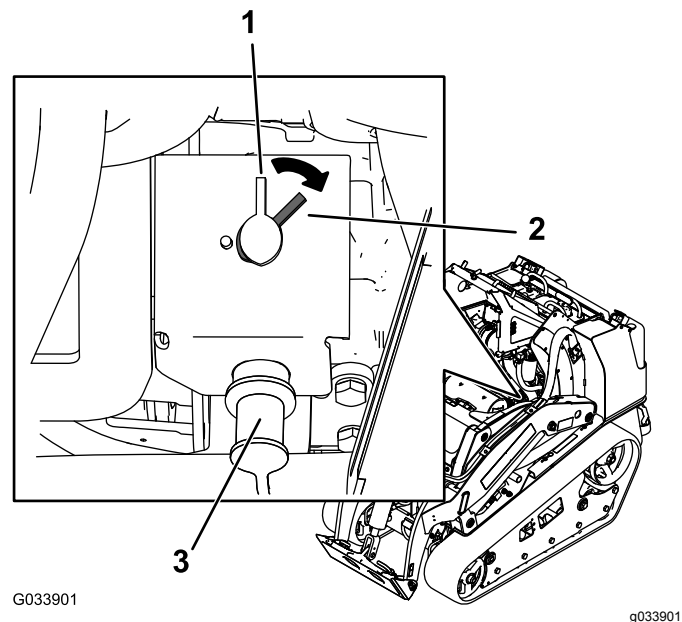

Figure 48
- To energize the machine electrically, rotate the battery-disconnect switch clockwise to the ON position (Figure 48).
- To de-energize the machine electrically, rotate the battery-disconnect switch counterclockwise to the OFF position (Figure 48).